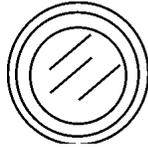

Figure 42. Pre-Heat Lamp
4. Depending on the temperature of the coolant (cold weather conditions), the pre-heat lamp (Figure 42) will light (**ON**) and remain on until the pre-heating cycle has been completed. After completion of the pre-heating cycle, the light will go **OFF** and the engine will start up automatically.